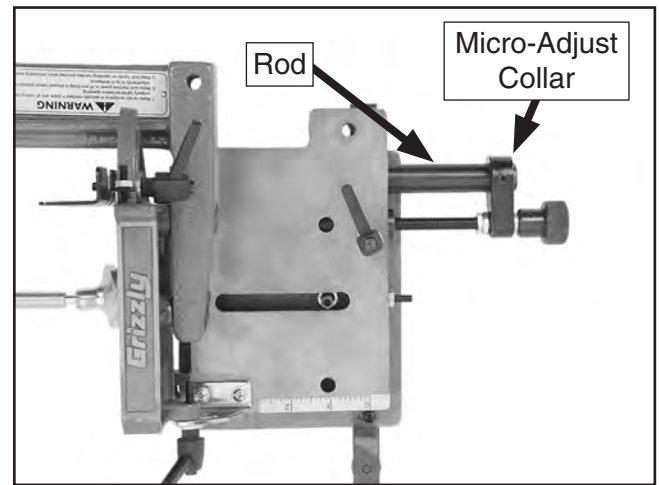

Figure 12. Micro-adjust assembly properly positioned.
- Slide the micro-adjust collar onto the rod, align the micro-adjust screw with the threaded guide shaft of the slide plate, then rotate the knob clockwise until the collar is even with the rod, as shown in **Figure 12**.